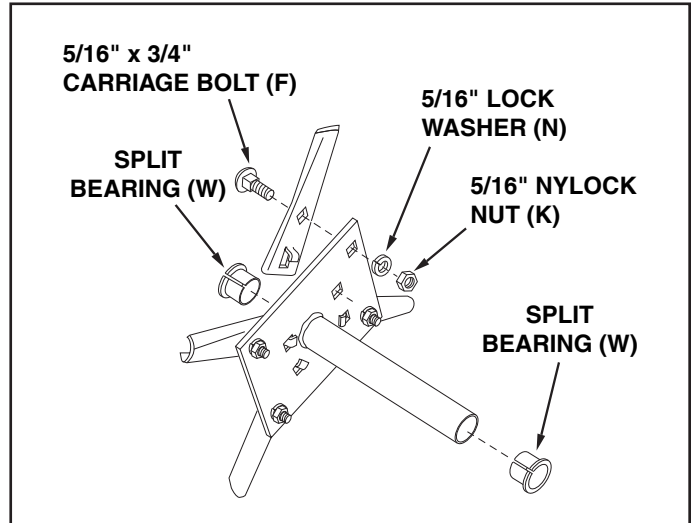

FIGURE 2
3. Assemble four aerator knives on the **outside** of each single spool assembly. Rotate each knife to insert the locking tab into the spool plate, then align the square holes and secure with a 5/16" x 3/4" carriage bolt, 5/16" lock washer and 5/16" nylock nut. See figure 2.
4. Push split plastic bearings into each end of the spool tube. See figure 2.